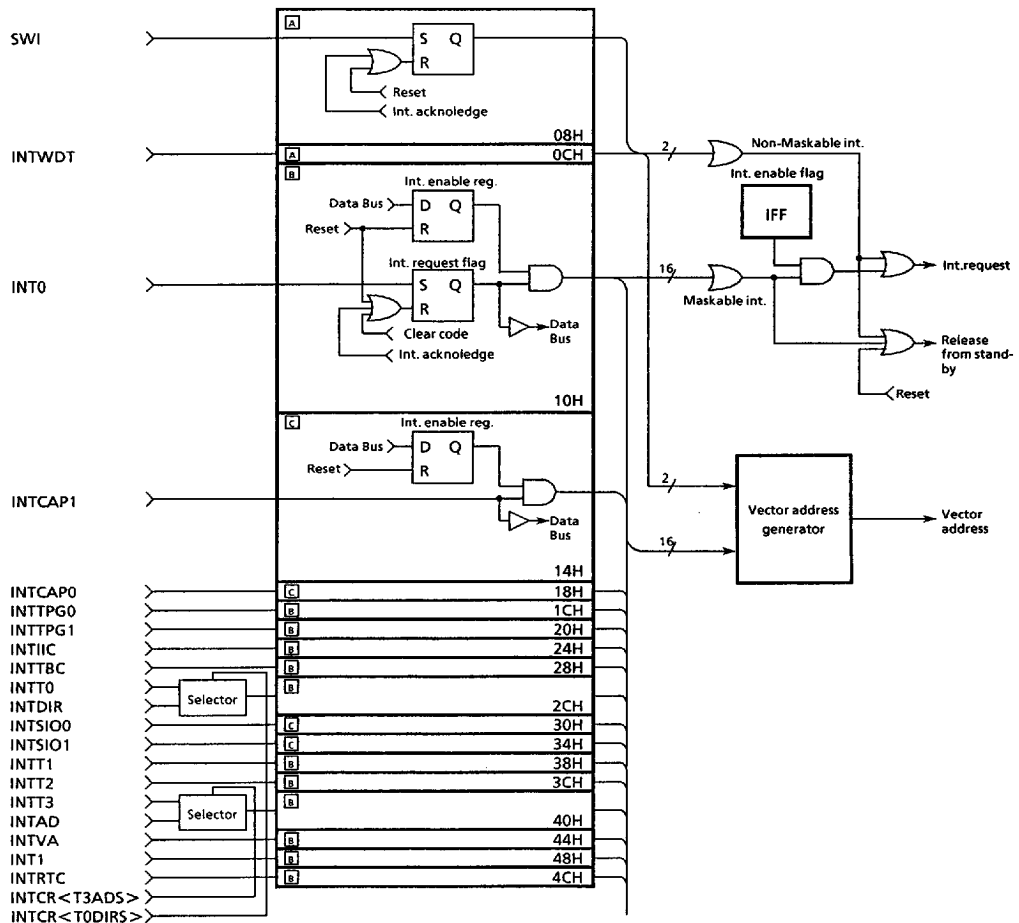

Figure 3.4.1 Configuration of Interrupt Controller
Fig. 3.4.1 shows a configuration of the interrupt controller. The interrupt controller consists of Interrupt Request Flag (IRF) and Interrupt Enable register (INTE) allocated to each of interrupt channels. The interrupt request flag (IRF) is a flip-flop to maintain an interrupt request from internal I/O. Each flip-flop is reset to "0" by resetting or reading out the vector by CPU when an interrupt is accepted. The interrupt request flag (IRF) can be reset by an instruction which write clear code (Refer to Table 3.4.1) to the address F790 (H).